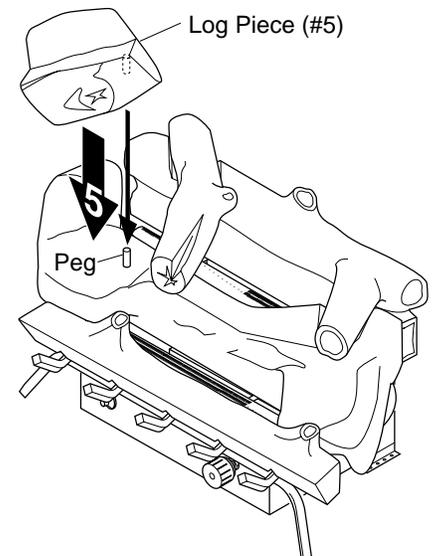

Figure 25 - Installing Log Piece (#5)
5. With knot to right side, place smaller log piece (#5) over the pin on the left side of the middle log. The smaller log will rest on front log against the "knot" on the left (see Figure 25).